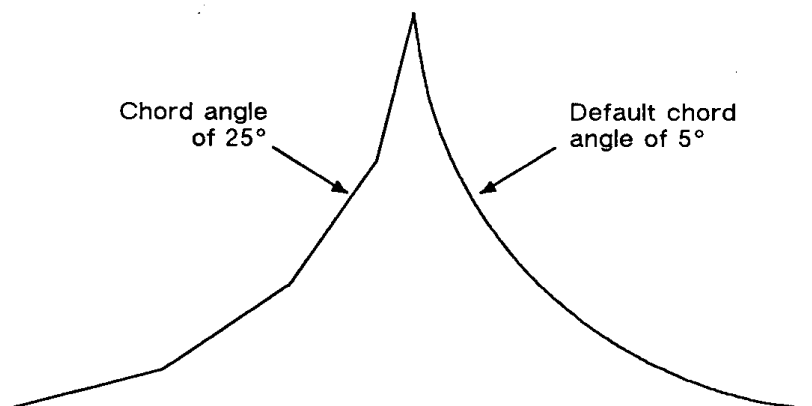

Figure 20-8 Changing Arc Smoothness with the Chord Angle
- For a specific chord angle, a circle or arc always has the same number of chords, regardless of its size. For example, for the default chord angle, a circle is always composed of 72 chords ($360^\circ/5^\circ$ per chord = 72 chords). This results in larger circles appearing less smooth than smaller circles with the same chord angle; setting the chord angle to a smaller number will help large circles or arcs appear more smooth (see Figure 20-8).